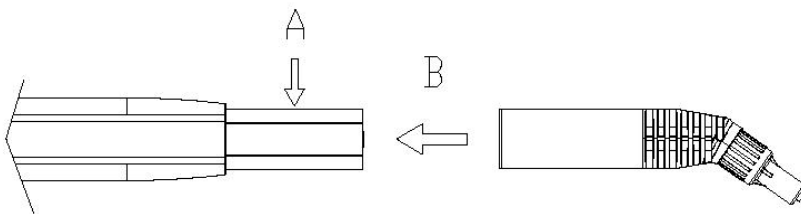

FIGURE 4
2. Press down on orange lock/release button (FIGURE 4-A). While continuing to hold button down, slide accessory onto Main Nozzle (FIGURE 4-B). Push accessory over button, and continue pushing until button snaps through rectangular hole.